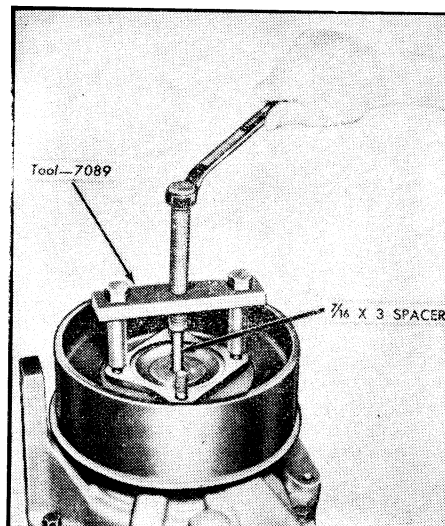

Fig. 8 Brake drum removal
21. Remove parking brake drum, Fig. 8.